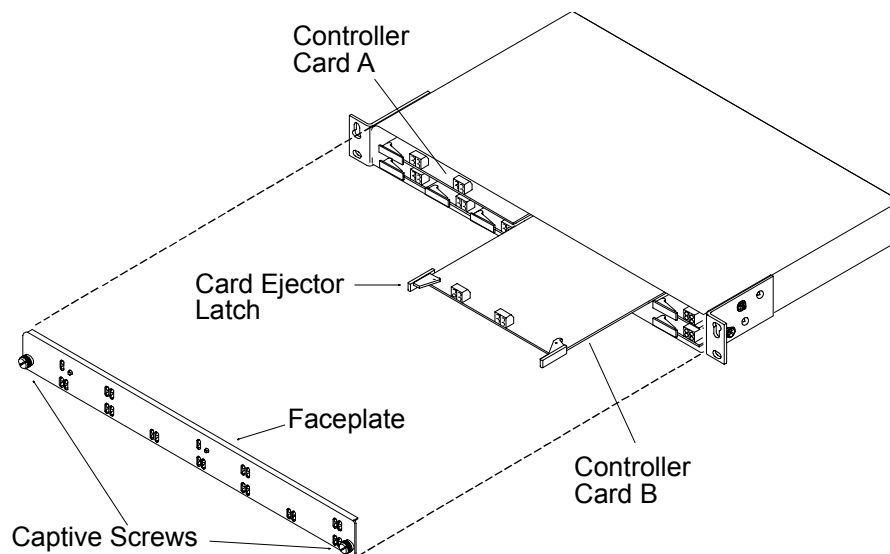

Figure 10-7 Replacing a DS3 Controller Card
1. Use a Phillips head screwdriver to loosen the two fastening screws on the faceplate of the Wide Bank and remove the faceplate. See Figure 10-7.